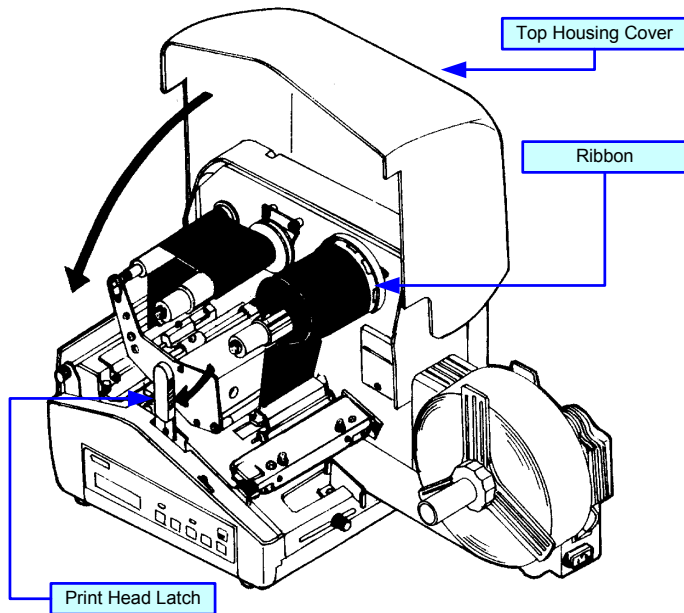

Figure 3-4f, Ribbon Loading
- 9 Lower the print head latch sandwiching the media and ribbon together (**Figure 3-4f**).